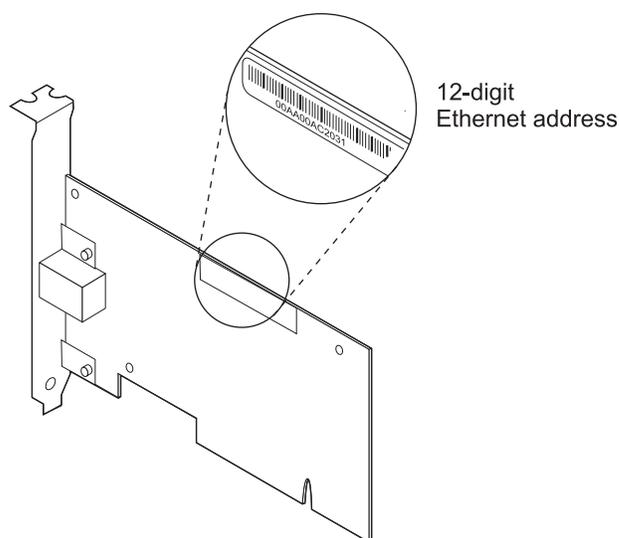

Figure 1-2. Ethernet Address Location
**Note:** The adapter Ethernet address is printed on a sticker on the edge of the adapter as shown in Figure 1-2 on page 1-3.